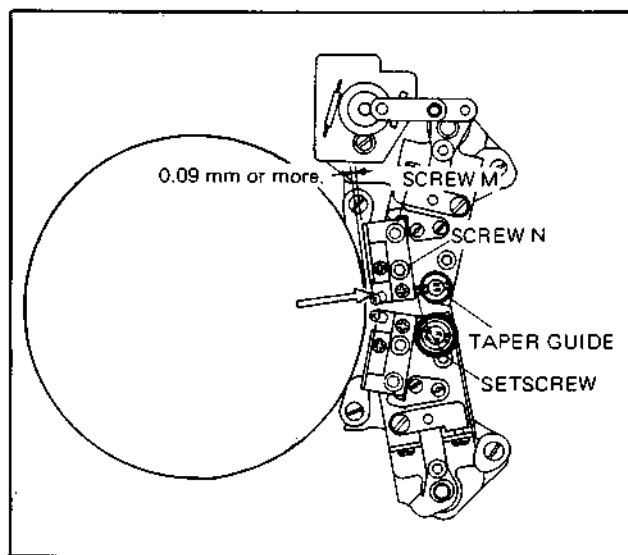

Fig. 10-28. Overlap C Adjustment
1. Loosen screw N shown in Fig. 10-28 1/2 to 1 turn. **Note: Do not loosen screw M.**